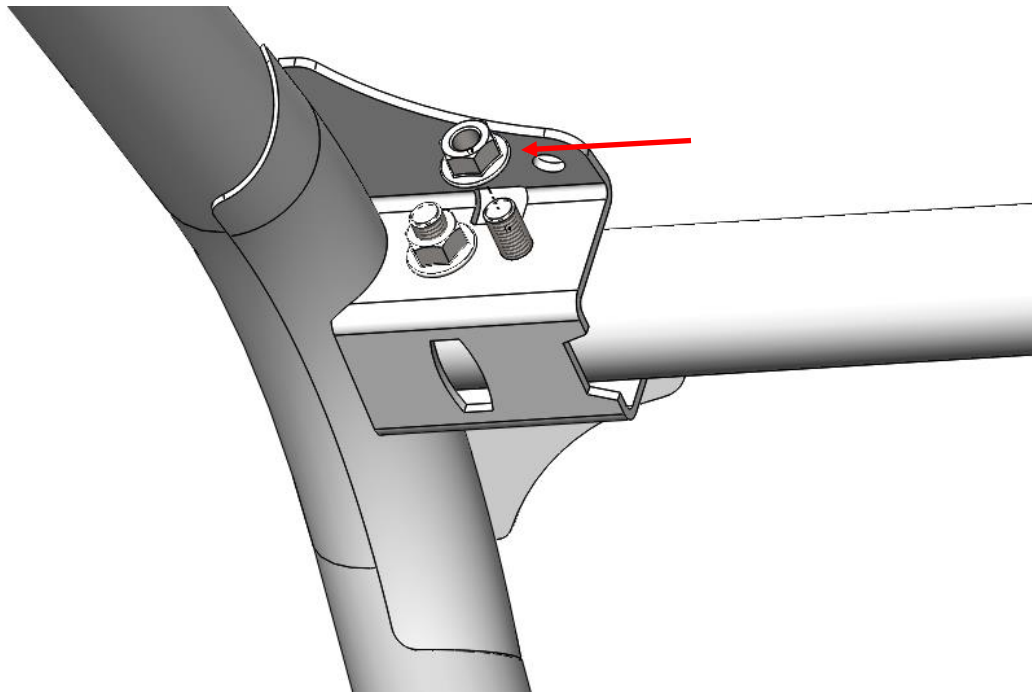

Figure 2: Remove the factory cross member nut. Driver side shown. (Passenger side similar)
2. Remove the factory flange nut from the inner driver's side bolt on the front cross member as indicated in Figure 2. The nut will be reused. Note: Driver side shown. (Passenger side similar)
9. Once you have the *Audio Mini* in your desired position, tighten the two flange nuts on the front cage cross member. Torque the bolts to 40 ft.-lbs. See Figure 2.